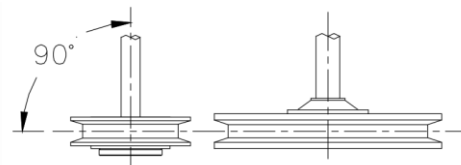

Figure 18
4. To align belt, lay a straight edge against the face of the compressor sheave (flywheel) touching the rim at two places. (Figure 18)